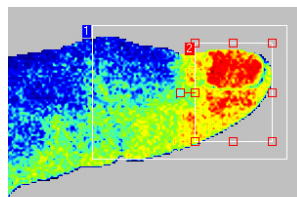

Figure 7-9 Selecting a ROI placed below another one.
2. To select a ROI that is placed below another one, first ensure that neither of the overlapping ROI:s are selected, press Ctrl and then click on the lower ROI, see Figure 7-9. Alternatively, select the lower ROI in one of the mean value, percent change or general tables.